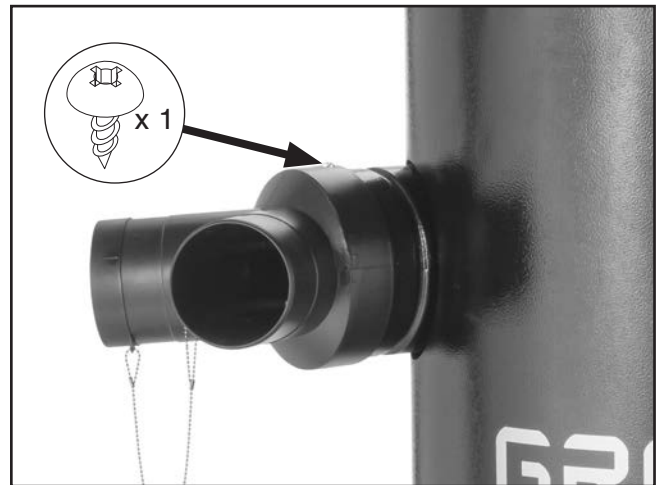

Figure 37. Inlet adapter attached to dust port (G0975 shown).
27. Attach inlet adapter to machine body using (1) #10 x $\frac{1}{2}$ " tap screw, as shown in **Figure 37**.